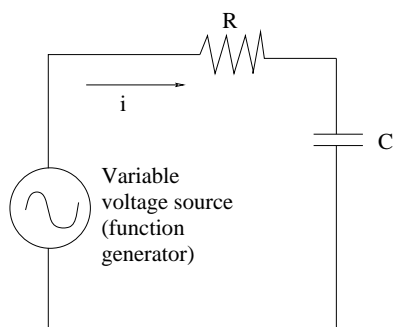

Figure 5: An RC circuit with a function generator supplying a time varying voltage.
An RC circuit is a circuit with a resistance R and a capacitance C hooked up in series. This is shown in figure 5. An RC circuit is a very interesting circuit. If one first imagines a capacitor being
1. Wire up an RC circuit as shown above in figure 5. Set the function generator to output a square wave. Hook up the oscilloscope across the capacitor to view the voltage across it as a function of time.